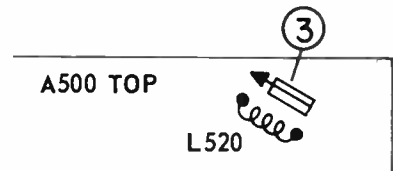

Fig. 4
STEP 3: Adjust L520 for minimum current dip on the millimeter in the cathode of V103. See Fig. 4.